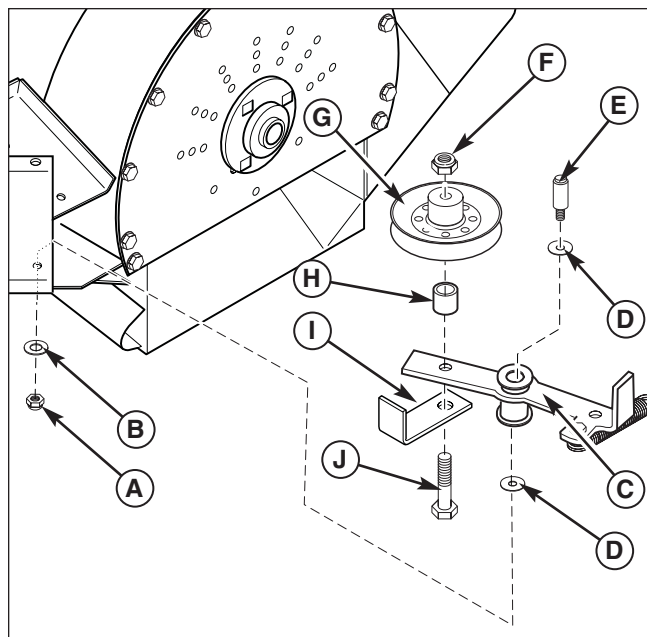
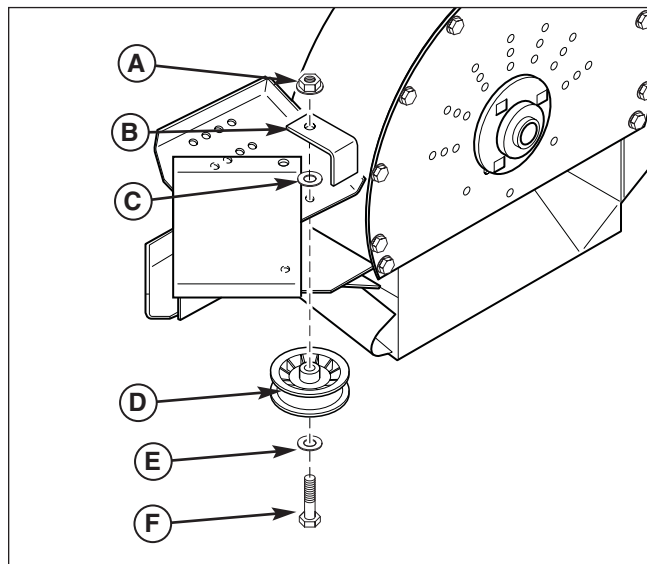

Figure 5. Updating the Idler Arm Assembly
Figure 6. Installing the New Washer
1. Loosen the 3/8-24 hex nut (A, Figure 5) that secures the idler arm (C) to the blower assembly. Remove the idler arm assembly from the blower assembly.
2. Loosen the 1/2" hardware that secures the idler pulley (G) to the idler arm assembly. Remove the idler pulley from the idler arm assembly. Discard the bolt that secured the idler pulley to the idler arm assembly.
3. Refer to figure 6. Install the new 1/2-13 X 2-3/4" bolt (J) through the belt keep (I), which should be positioned with the tab facing up, then through the idler arm (C), then through the idler pulley spacer (H), and then through the idler pulley (G) which should be positioned with the hub facing up, and secure with the 1/2-13 hex nylon lock nut (F).
5. Loosen the 3/8-16 hex serrated flange nut (A, Figure 6) that secures the fixed idler pulley (D), and belt keep to the blower assembly.
6. Remove the 3/8-16 hex serrated flange nut (A) and the belt keep (B) from the 3/8-16 X 2" bolt (F).
7. Refer to figure 6. Install the .41 X 1.75 X .14 washer (C) onto the bolt above the top of the blower assembly. Reinstall the belt keep (B) with the tab facing down, and secure with the 3/8-16 hex serrated flange nut (A).